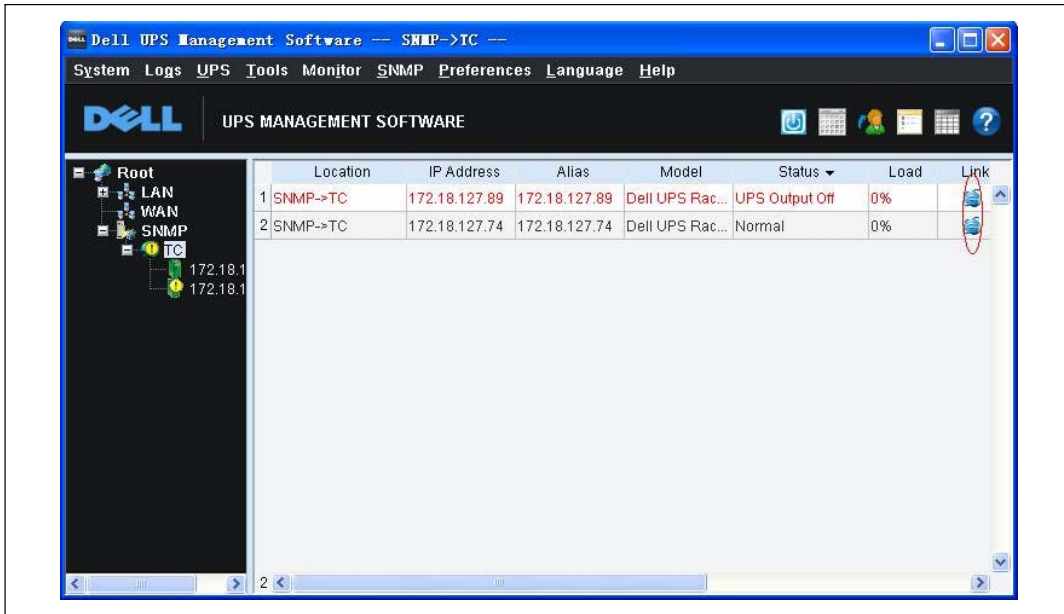

Figure 100. Successful Link
- Double-click the new device node to connect it with the Internet browser of the Network Management Card (see Figure 100). The Link column indicates successful communication.